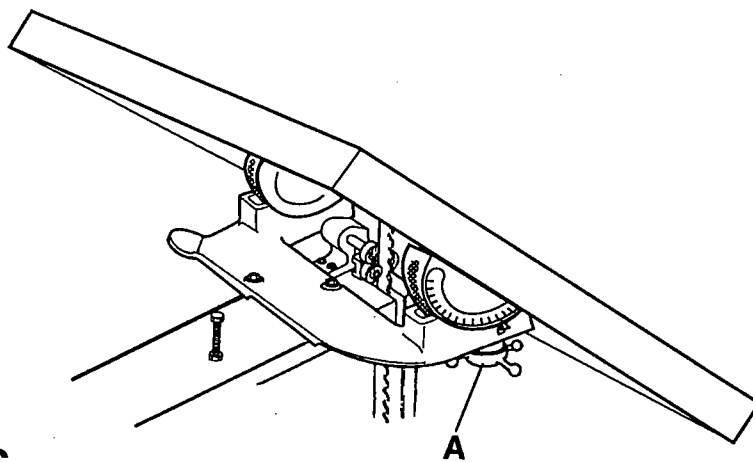

FIGURE 12
1. Loosen the hand knobs, on front and rear, A Figure 12.